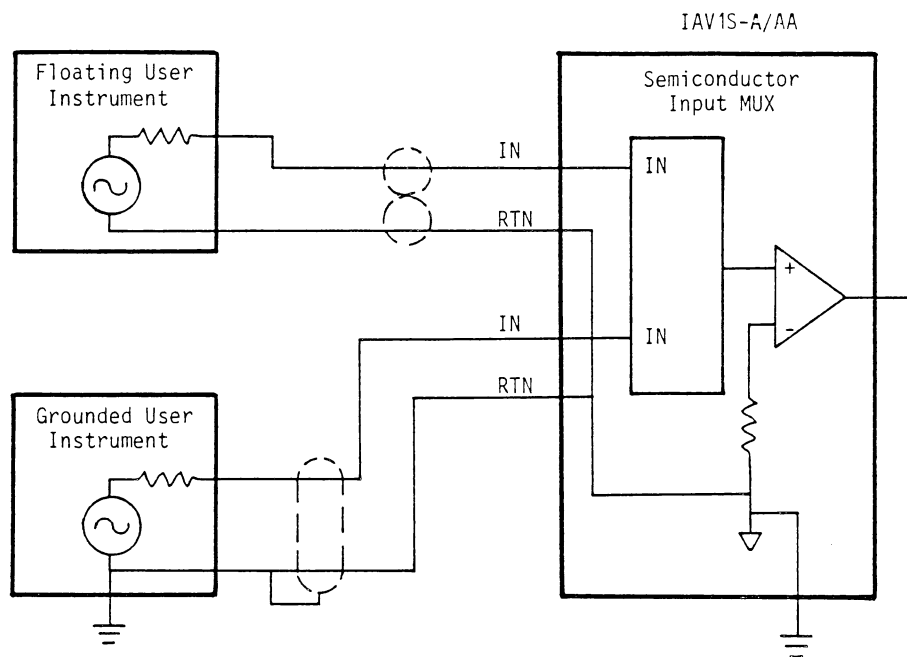

Figure 6-9: Single-Ended Analogue Input
The single-ended inputs have one side of the user's analogue source connected to the semiconductor analogue multiplexer input (IN) and the other side connected to analogue return (ANA RTN) as shown in Figure 6-9.
A grounded input signal is referenced to the ground of the instrument that is producing the signal (figure 6-9). Since the instrument may be located some distance from the computer, there may be some voltage difference between the instrument ground and the computer ground. The voltage seen by the IAV1S-A is the sum of this unwanted ground difference voltage and the desired signal voltage.
A floating signal voltage is measured with respect to a point that is not connected to ground. Examples of this type of analogue input are shown in figure 6-9.